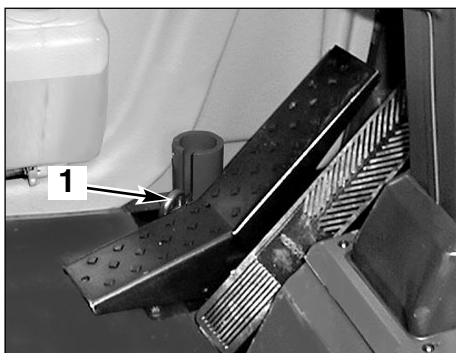

Fig. 7
- Align the turntable and lock it mechanically (1 fig. 7).